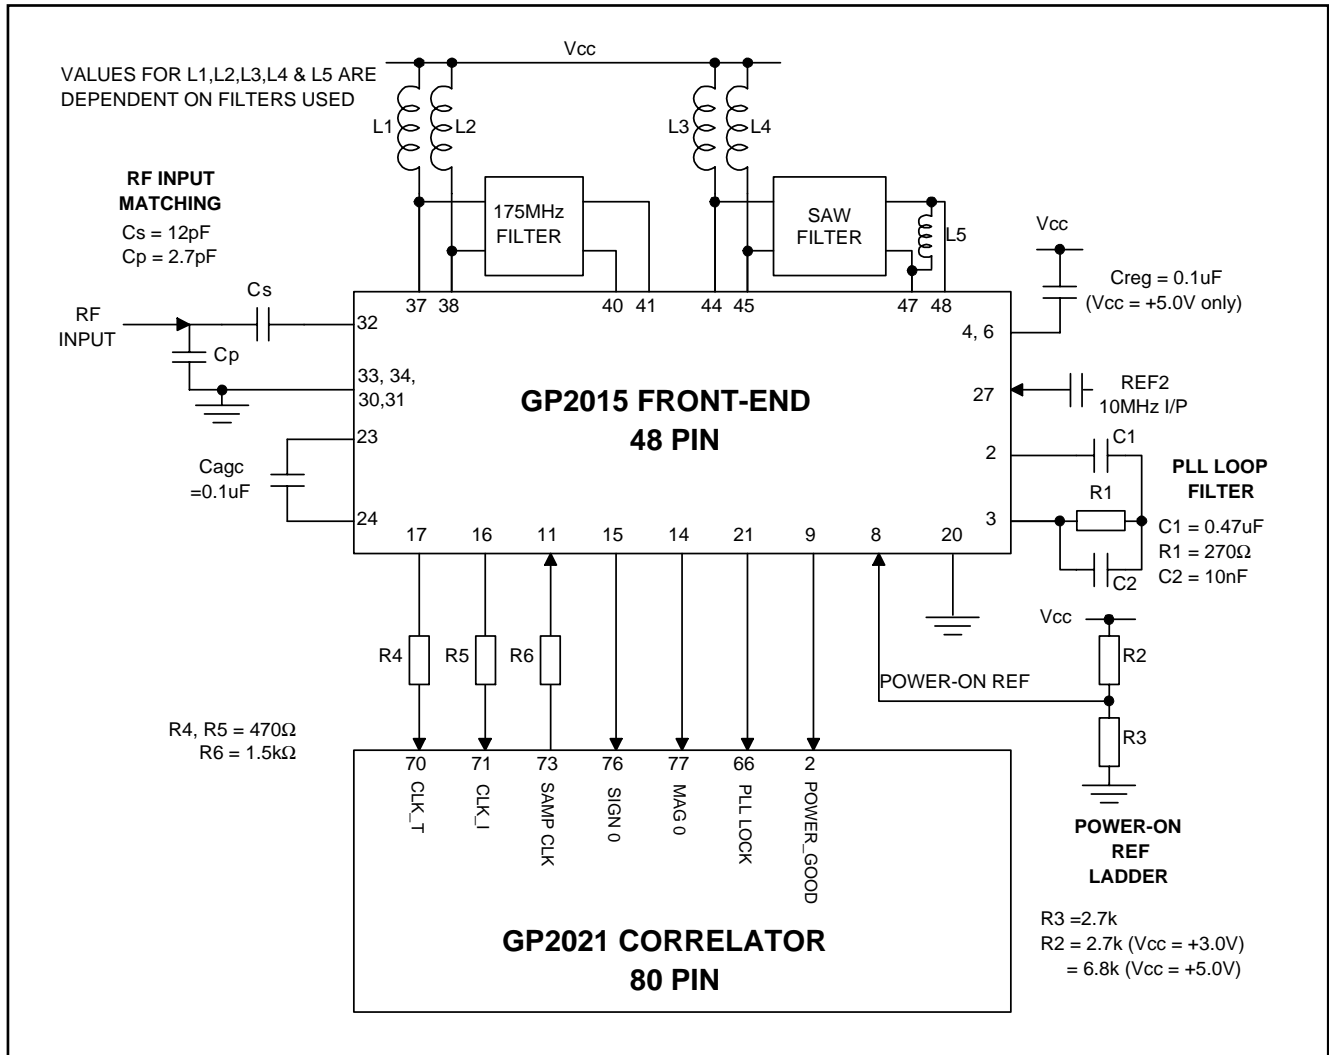

Figure 4 - GP2015 typical application
| 32 | RF Input | Input | RF input. The GPS RF input signal @ 1575.42MHz from an external antenna with LNA and filter is connected to this pin via an input-matching network (see fig.4). |
A typical application circuit is shown in figure 4 with the GP2015 front-end interfaced to the GP2021 12-channel correlator integrated circuit. The RF input has an unmatched input impedance (see page 4). The RF input matching components C_s and C_p should be mounted as close to the RF input as possible: also the V_{ee} (RF) tracks must be kept as short as possible. A SAW filter may be used as a 175.42MHz filter, but this can be replaced by a simpler coupled-tuned LC filter if there is no critical out-of-band jamming immunity requirement. The DC bias to mixer 1 is provided via inductors L1 and L2, which may form part of the 175.42MHz filter. The output of mixer 2 requires an external dc bias, achieved with inductors L3 and L4, which also serve to tune out the input capacitance of the 35.42MHz SAW filter. The output of the SAW filter is tuned with inductor L5. Capacitor (Cagc) determines the AGC time-constant. The PLL loop filter components are selected to give a PLL loop bandwidth of approximately 10kHz. The IF Output is normally used for test-purposes only, but is available to the user if required. Typically a low noise preamplifier (gain $> +15dB$) is